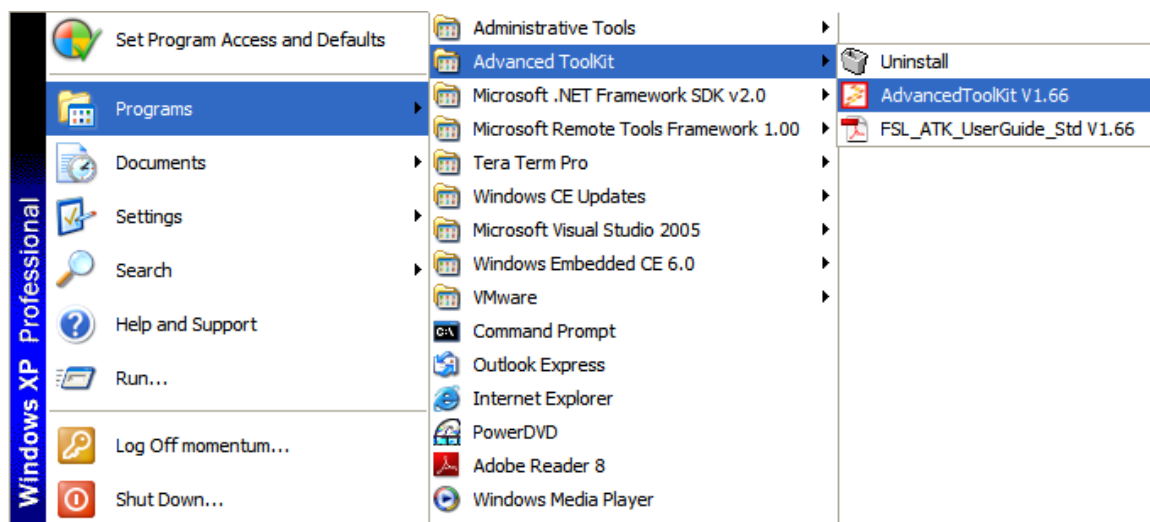

Figure 5-1 Location of Advanced Toolkit Application
3. Run `ADSToolkit.exe` (Figure 5-1).